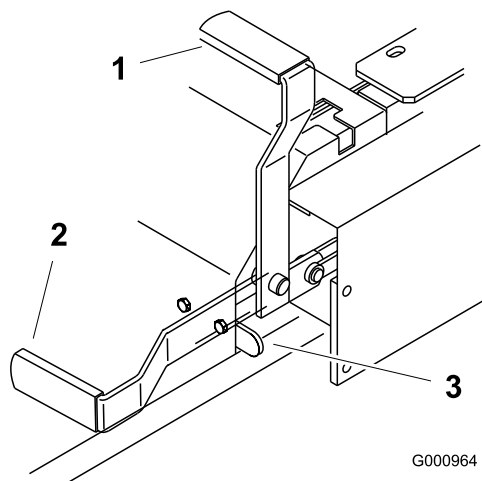

Figure 13
2. Pull up and back on the parking brake lever to set the parking brake (Figure 13). The parking brake lever should stay firmly in the engaged position.
Push forward and down on the parking brake lever to release the parking brake (Figure 13). The parking brake is disengaged and the lever will rest against the brake stop.